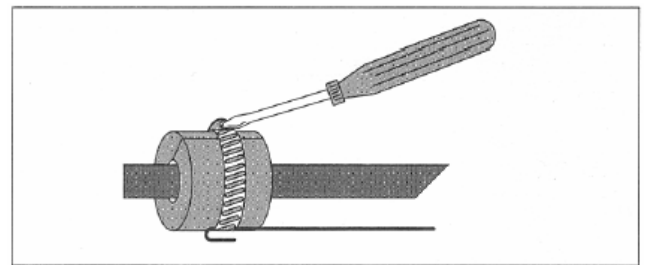

Figure 3
3. Tighten the clamp until the hanger and cable are firmly held in place. See Figure 3.